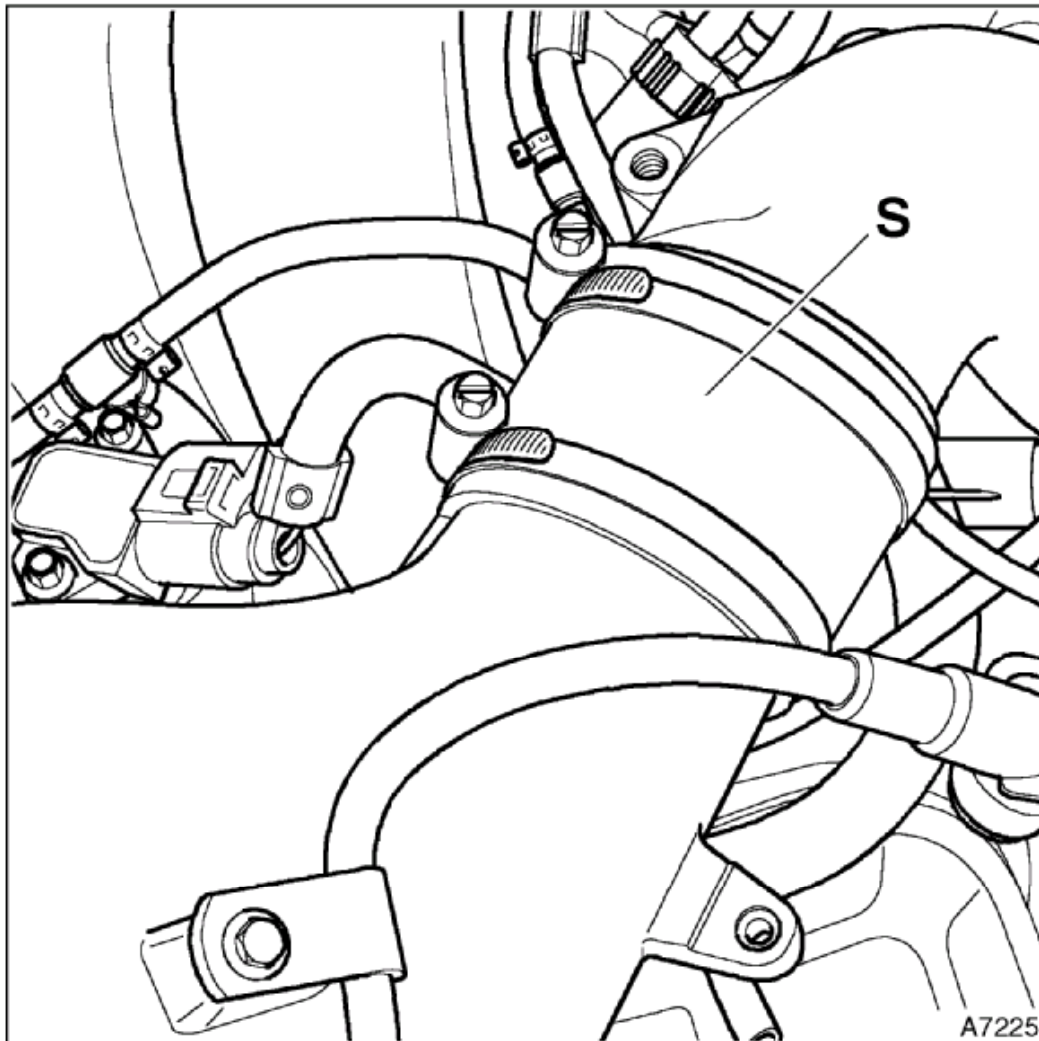

Figure. 11
24. Disconnect the hose S, throttle to chargecooler, carefully lever the chargecooler upwards at the centre to allow the sensor removal. See figure 11.